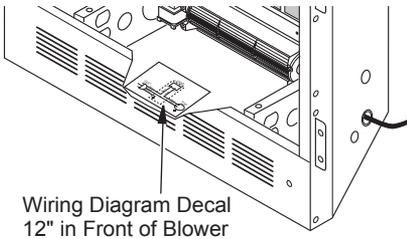

Figure 28 - Location of Wiring Diagram Decal (Model May Vary From Illustration)
10. Peel off the backing paper and stick the supplied wiring diagram decal on the firebox bottom approximately 12" in front of the blower (see Figure 28).
11. Peel off the backing paper and stick the supplied wiring diagram decal on the firebox bottom approximately 12" in front of the blower (see Figure 28, page 20).